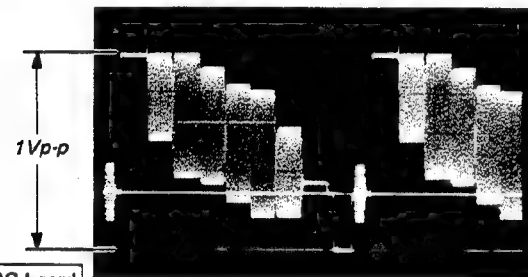

Fig. 3-1
3. Adjust to 1.0Vp-p with RV101 of BA board as shown in Fig. 3-1.
5. Adjust to 1.0Vp-p with RV3 of BG board as shown in Fig. 3-1.